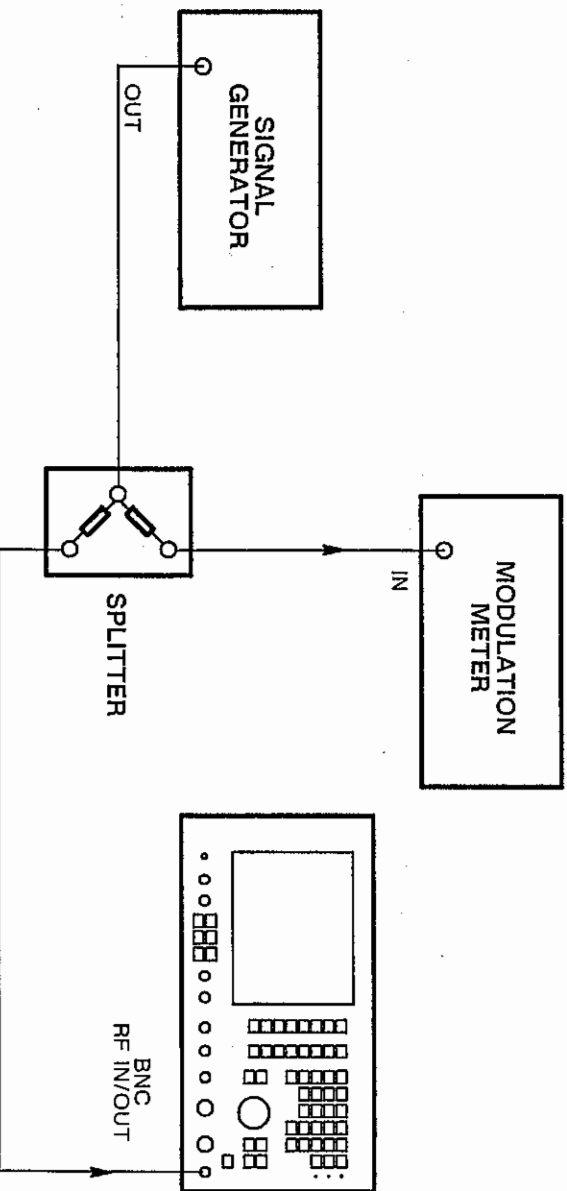

Fig. 6-4 Test equipment connections for modulation meter AM depth and FM deviation
- (1) Connect the signal generator to the input of the power splitter. Connect the outputs of the power splitter to the RF IN/OUT BNC socket and to the modulation meter. See Fig. 6-4.
- (2) On the 2955A, set the MODE to TRANSMITTER TEST, MOD to AM, FILTER to 0.3-3.4 kHz BAND PASS and RF IN/OUT socket to BNC.
- (2) On the 2955A, set the MODE to TRANSMITTER TEST, MOD to FM, FILTER to 0.3-3.4 kHz BAND PASS, DIST'N, S/N and SINAD to off and RF IN/OUT socket to BNC.
- (3) Set the signal generator carrier frequency to 500 MHz, level to 13 dBm, 25 kHz FM and 1 kHz internal modulating frequency.
- (4) Set the modulation meter to FM in a 0.3 to 3.4 kHz bandwidth.
- (5) Check that the MOD LEVEL reading is the same as the modulation meter reading  $\pm 5\% \pm 1$  digit. Check that the FM bar chart indicates the FM being applied.
- (6) Repeat (3) and (5) for other carrier frequencies from 1.5 to 1000 MHz and deviations between 0 and 25 kHz.
- (7) On the 2955A, set the FILTER to 15 kHz LOW PASS.
- (8) Set the signal generator carrier frequency to 500 MHz, level to 13 dBm, modulation level to 25 kHz external FM at 10 kHz modulating frequency (from the LF generator).
- (9) Set the modulation meter to FM in a 30 Hz to 50 kHz bandwidth.
- (10) Set the synthesized LF generator to give a 10 kHz sinewave. Adjust the level to suit the external modulation input of the signal generator.
- (11) Check that the MOD LEVEL reading is the same as the modulation meter reading  $\pm 6.5\%$ .